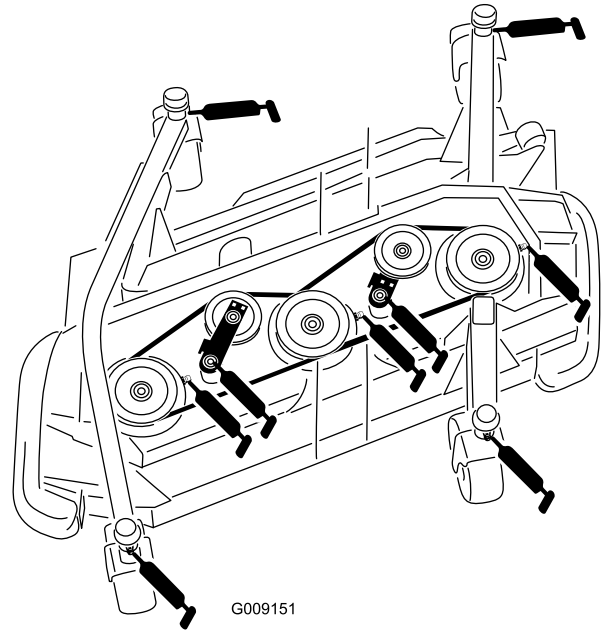

Figure 82
- 3 spindle-shaft bearings (located on the spindle housing) as shown in Figure 82
- 2 idler-arm-pivot bushings (located on the idler-pivot shaft) as shown in Figure 82
- 4 caster-fork-shaft bushing (Figure 82)